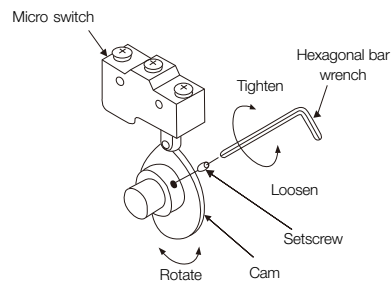

Fig.4 Adjustment of Cam
1. Loosen the setscrew using a hexagonal bar wrench as shown in Fig 4 so that the cam can be moved smoothly.